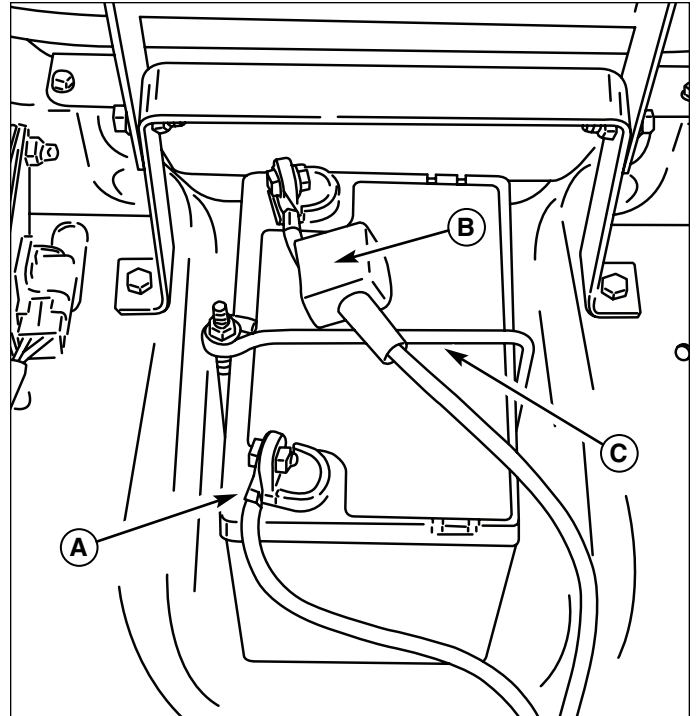

Figure 2. Battery
1. Install the battery in the battery compartment and secure using the holddown rod (C, Figure 2).
2. Connect the red positive battery cable (B) to the positive battery terminal, then cover the positive battery terminal with the terminal cover.
3. Connect the black negative battery cable (A) to the negative battery terminal.